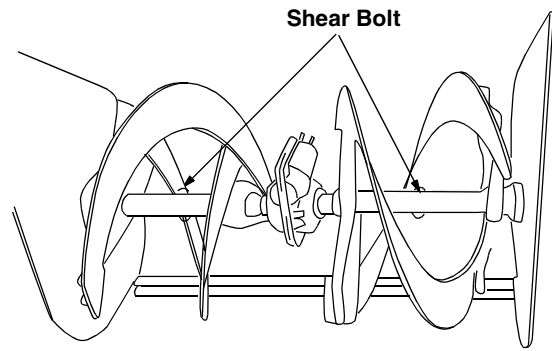

Figure 23
- If the augers will not turn, check to see if the bolts have sheared. Replace if necessary. See Figure 23. Two replacement shear bolts and hex lock nuts have been provided in Group D of the hardware pack which is illustrated on page 5.